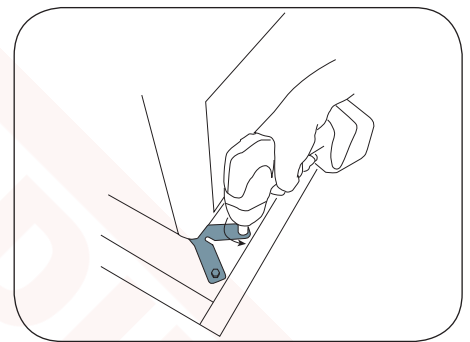

Figure 2. Remove Shipping Brackets
2. Remove the 6 steel shipping brackets securing the table to the pallet (Figure 2). The brackets hook onto the table levelers to hold the table securely to the pallet. Remove the 2 bolts from each bracket using a 7/16" socket or wrench. Take care not to scratch the unit when using the driver or turning the wrench. Remove brackets from levelers once bolts are removed.